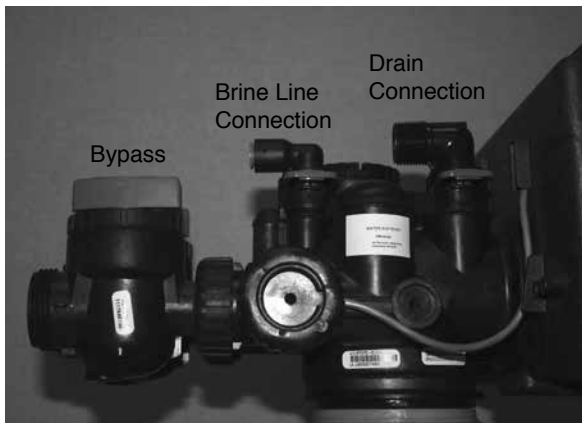

Figure 6a
5. The drain connection may be made using either 5/8" polytube (See figure 6a) or a 3/4" female adapter. If soldering, joints near the drain must be done prior to connecting the drain
7. Connect the brine line found in the salt keeper to the brine connection on the control valve. The control valve has a standard refill elbow to which a 3/8" flexible tube can be connected, see figure 6a, page 5. (An optional elbow can be ordered which accommodates a 1/2" flexible tube for a high regenerant draw rate situation). Both elbows use the same refill flow control and retainer. Do not connect the other end of the brine line to the safety brine valve in the salt keeper at this time. Make sure the floor is clean beneath the salt tank and that it is level and smooth. No grid is required with standard brine tank as softener is programming as prefill.